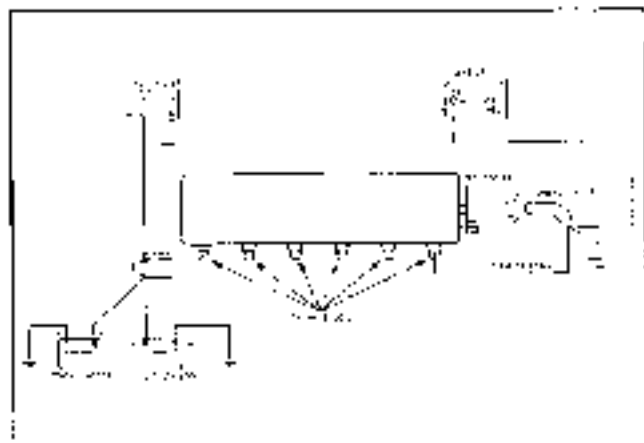

Fig. 6C-1 Schematic of Test-Up Instrumentation
Follow manufacturers recommendations for the use of testing equipment. Fig. 6C-1 shows a basic schematic for instrumentation which will apply to many types of test equipment and may be used as a rough guide if equipment manufacturer's instructions are not available.
Connections shown in Fig. 6C-1 are made as follows:
1. Attach a timing light and tachometer as shown in Fig. 6C-1.